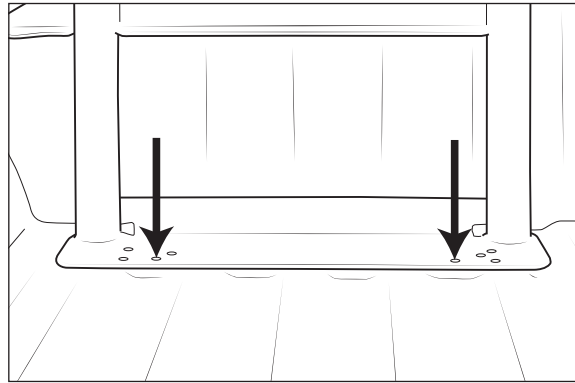

Figure 9
- B. Mark two hole locations on the bed floor (fig. 9).